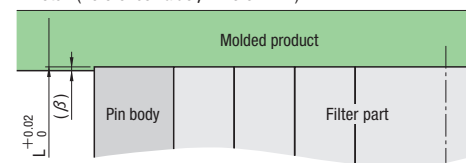

Fig. 7: When TK alterations are applied and total length (L) is embedded
The total pin length (L) is embedded into the molded product by a value " β ", preventing burrs from protruding out from the molded product surface (Fig. 7).